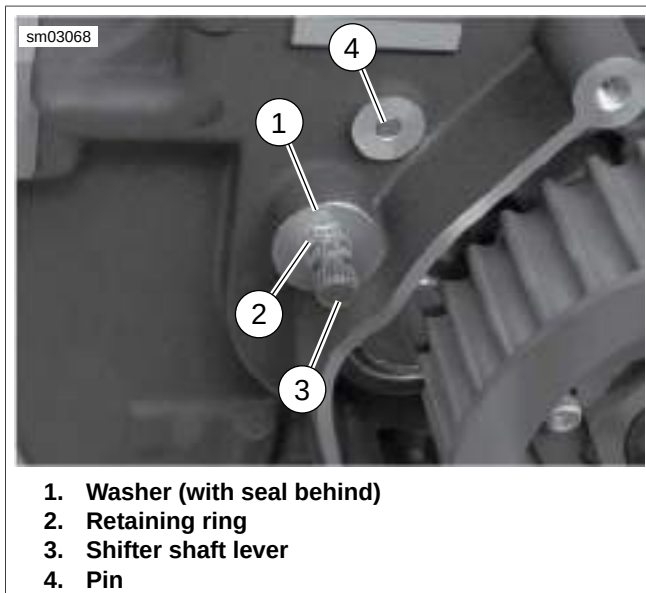

Figure 6-54. Shifter Shaft Lever, Exterior View
4. See Figure 6-54. Insert the assembly into the transmission case.
6. See Figure 6-54. Install a **new** seal. Install washer (1) and a **new** retaining ring (2).